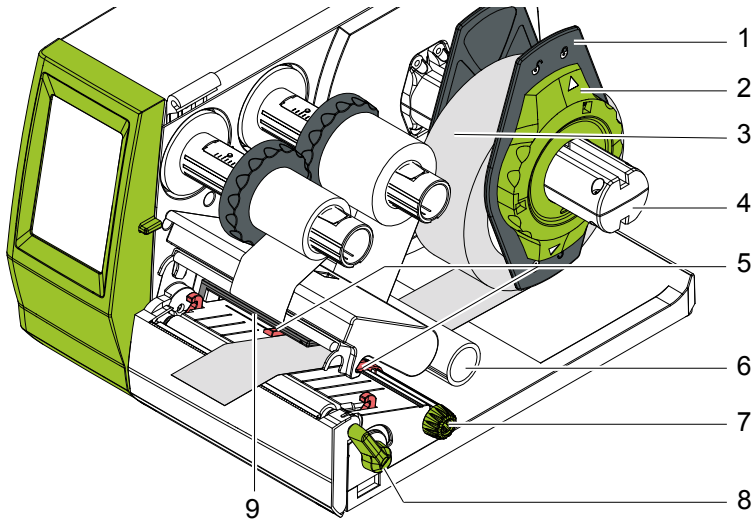
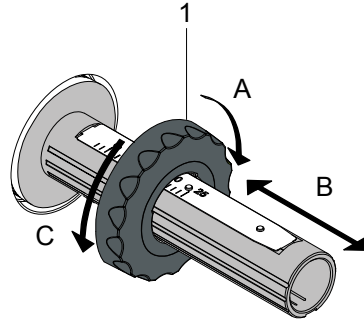

Fig. 9 Loading Continuous Media from Roll
Fig. 12 Guide Adjustment
2. Turn lever (6) counterclockwise to open the printhead.
3. Set guide (1) on both hubs to the correct transfer ribbon width (Fig. 12):
- Hold hub and unlock guide (1) by turning it in direction A.
4. Load transfer ribbon (4) on the hub (5) until it reaches the guide in a way that the color coating of the ribbon faces the opposite side of the printhead after being loaded.
**To wind the ribbon a ribbon core (3) is needed that must be at least equal in width to the supply ribbon.**
5. Adjust position of the guide on the take-up hub to the width of the ribbon core (3) and push ribbon core on the take-up hub (2).
6. Guide transfer ribbon through the printing unit as shown in Fig. 9.
▶ **Guide transfer ribbon over the label sensor (7).**